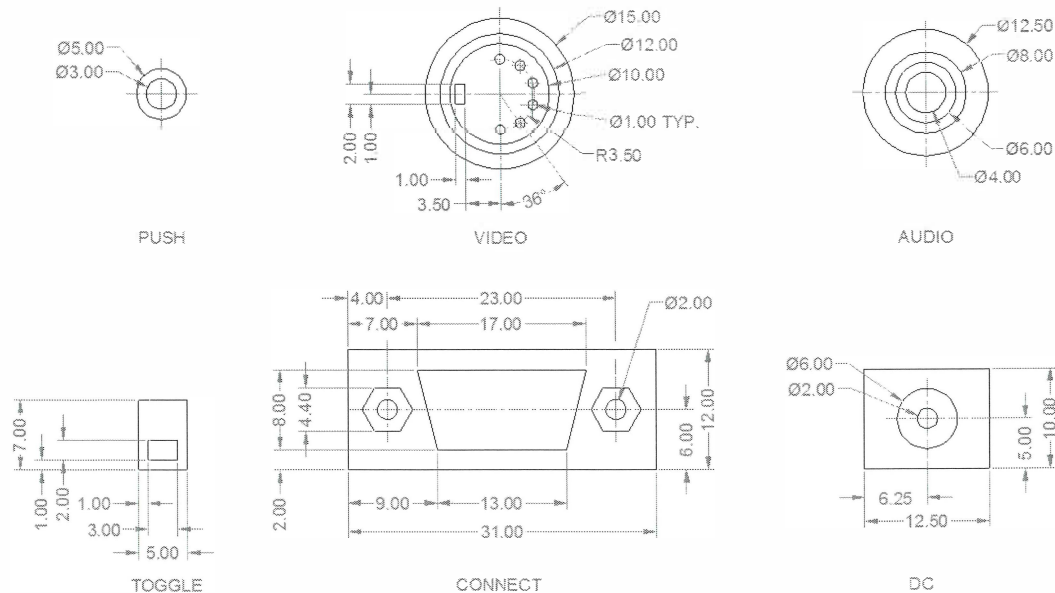

Figure 6–1
In this project, you will draw objects to represent components in a control panel, make blocks of those objects, and insert the blocks to complete the drawing, as shown in Figure 6–2.
2. Create the blocks shown in Figure 6–1. All objects should be drawn on layer **0**. Do not create the text captions, dimensions, or center marks.
3. Insert the blocks on the layer **Component** as shown in Figure 6–2.